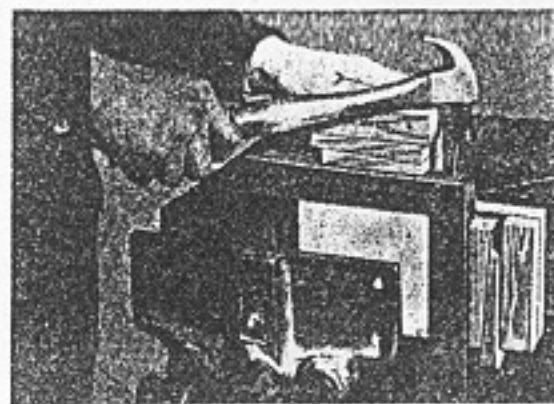

Fig. 229. Nailing a miter joint clamped in a jig.
2. A jig is made as shown in Figures 229 and 230, and the miter joint is clamped with double wedges as shown. The nails are driven from both sides of the joint and perpendicular to the outside edges. This device holds the pieces firmly and prevents any distortion or unevenness that is likely to occur when one of the pieces is held by hand during the nailing process.